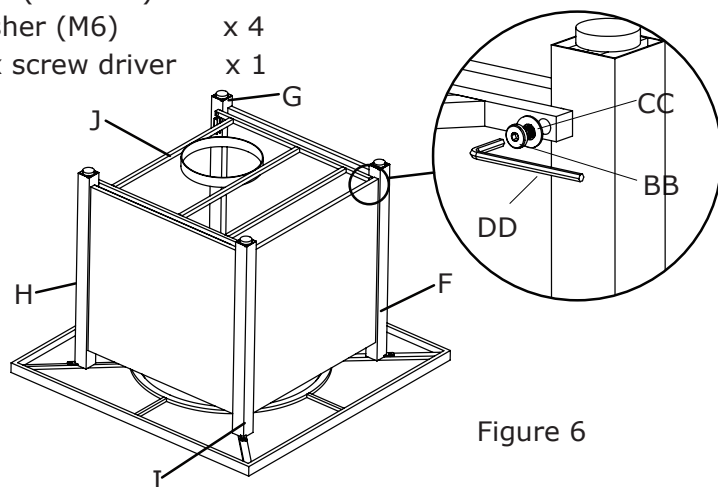

Figure 6
6. Attach gas cylinder support (J) to back-left leg (H) and back-right leg (I) and front-left leg (G) and front-right leg (F) with bolts (BB) and washer (CC) using hex screw driver (DD), (see Figure 6).